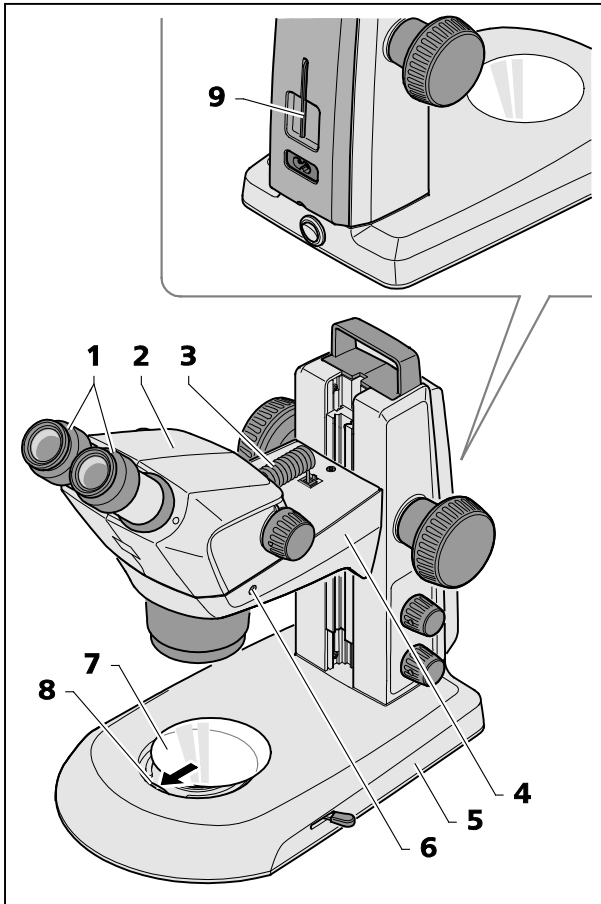

Fig. 10 Installing the stereo microscope
- If the Stemi 305 body (Fig. 10/2) has not yet been mounted, insert it in the Stemi mount (Fig. 10/4), align it and secure it using the clamping screw (Fig. 10/6). The appropriate Allen key (Fig. 10/9) is located in the support on the back of the device.
- If the two eyepieces (Fig. 10/1) have not yet been mounted, insert them both to their stop in the eyepiece tube.
- Insert the connection cable (Fig. 10/3) supplied with the device into the socket on the Stemi body and in the socket on the Stemi mount.
- Insert glass plate or B/W plastic plate (Fig. 10/7) in the mount in the base of the stand. To this effect, press the glass plate or the B/W plastic plate against the spring (Fig. 10/8) and make it lock in.